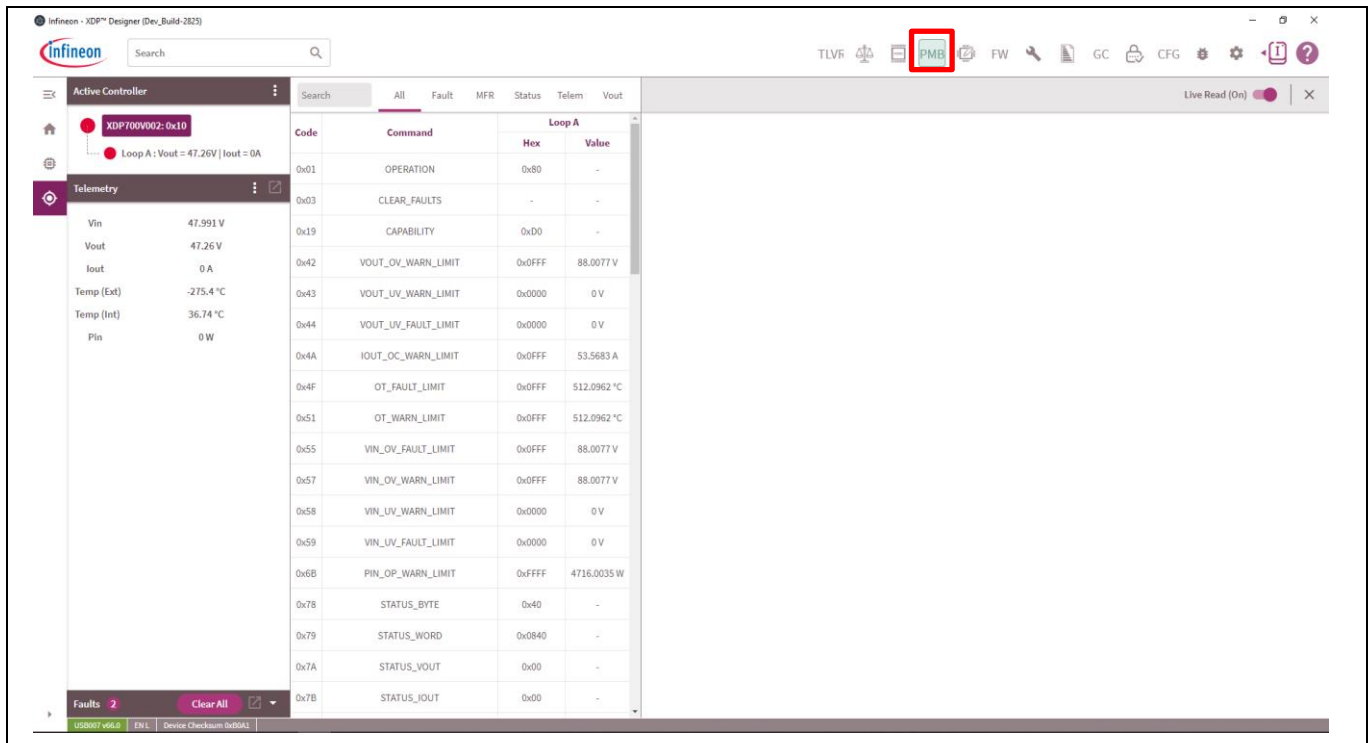

Figure 26 XDP™ Designer displaying PMBus registers of connected XDP700-002
2. Click the **PMB** button to view PMBus registers and their stored values. See Figure 26.